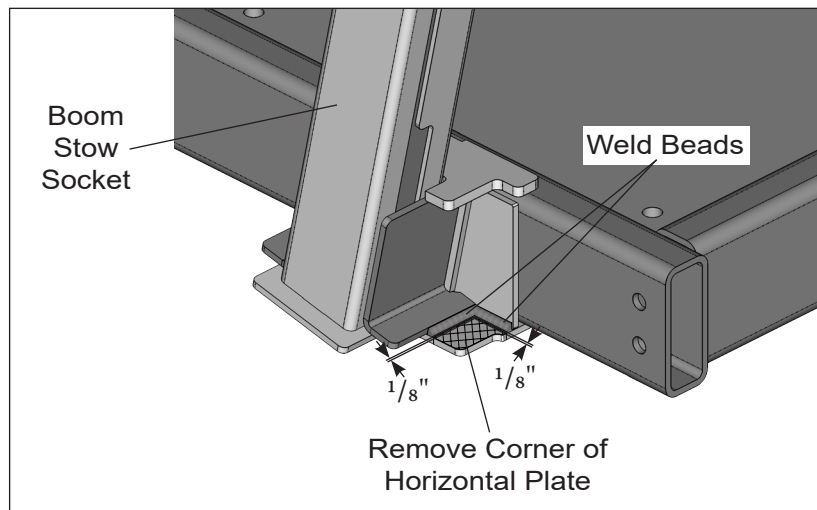

Figure 3 – Horizontal Plate Before Modification
12. Using a plasma cutter or cut-off wheel, remove the corner portion of the horizontal plate beyond a distance of $\frac{1}{8}$ " from the edge of the weld beads, as shown in Figures 3 and 4. Do not cut into the weld beads. Do not cut into the horizontal plate any farther on the bottom than on the top if using a cut-off wheel.